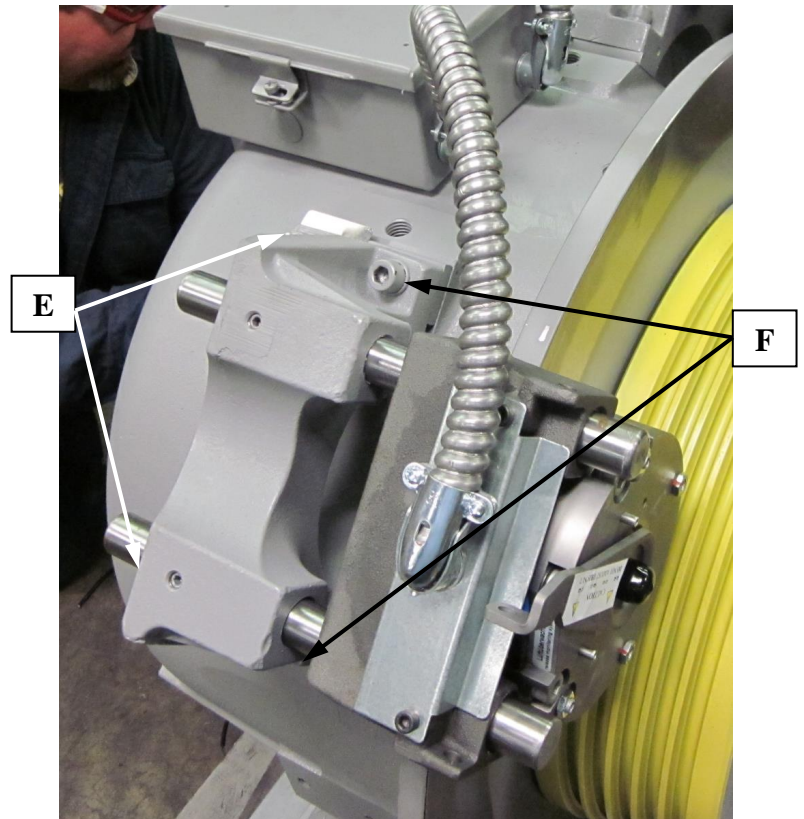

Figure 14
- Air gap can be adjusted by shimming under Brake Base. With the Brake clamping the rotor (de-energized) Use a 3/8" Hex Wrench to loosen (2 per side) socket head screws per instructions as follows. See Figure 14.